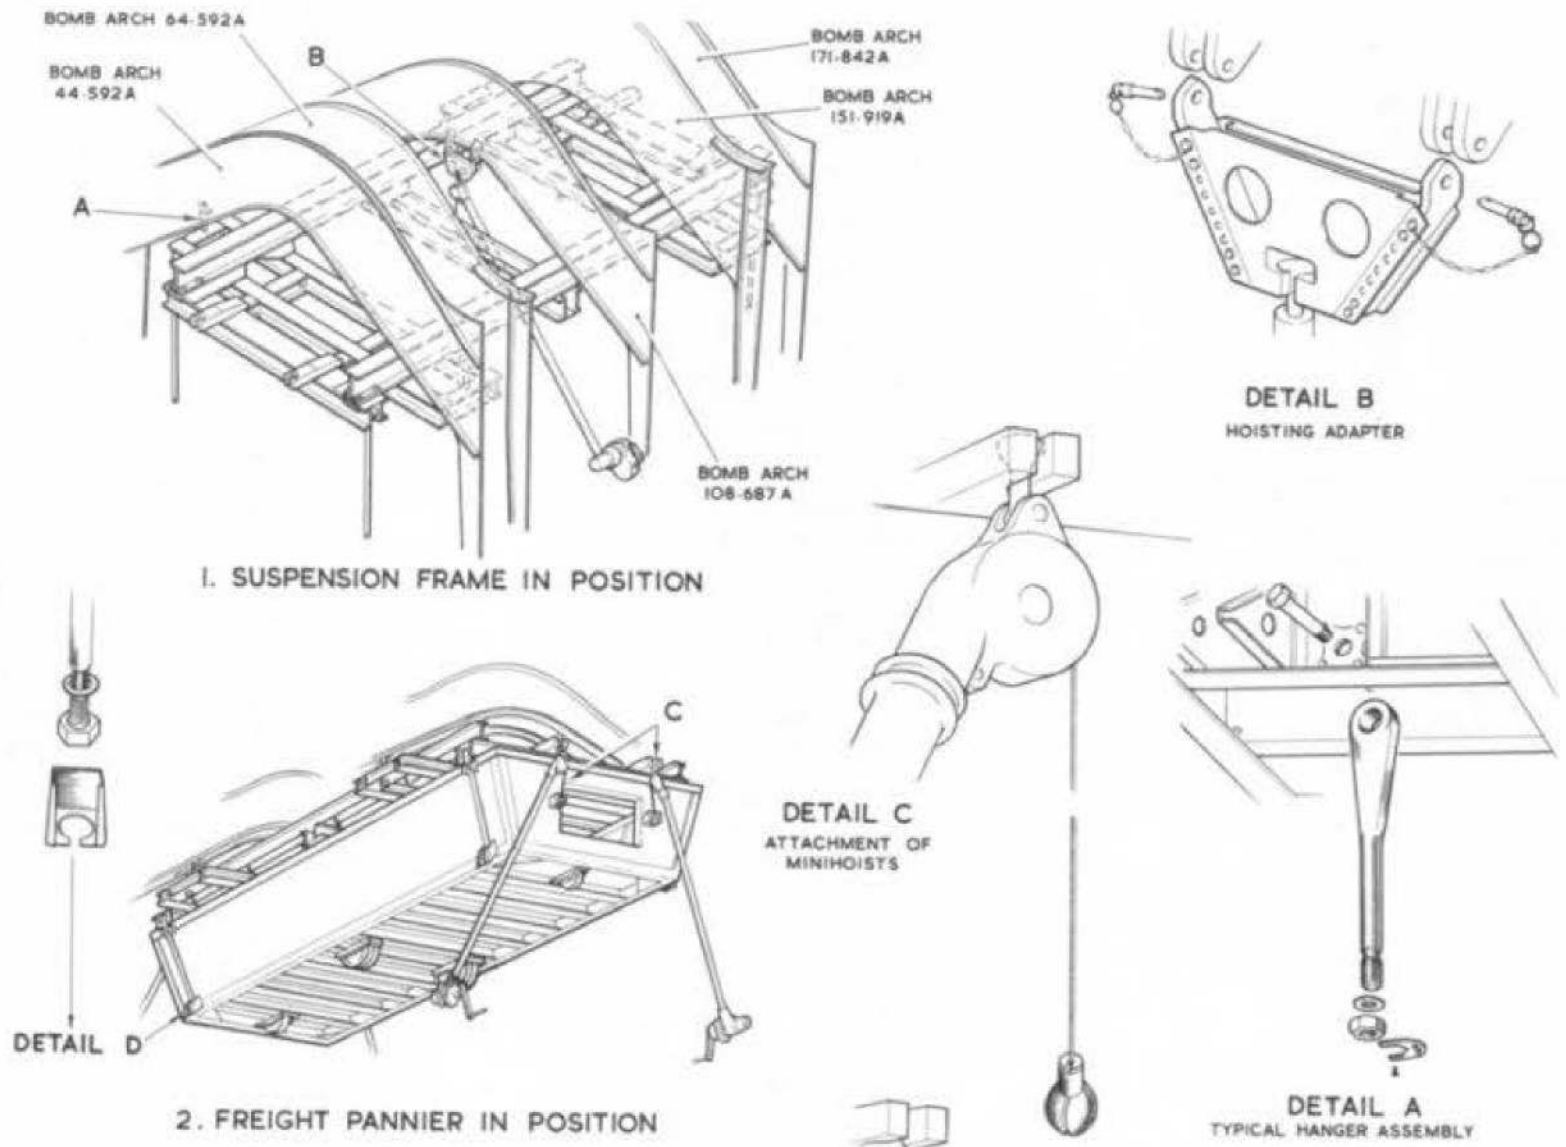

Fig. 4. Fitting freight pannier and suspension frame (1)
32. The freight pannier suspension frame and its attachment points on the aircraft are illustrated on fig.4, the sequence of operations for fitting the frame to the aircraft is as following:-